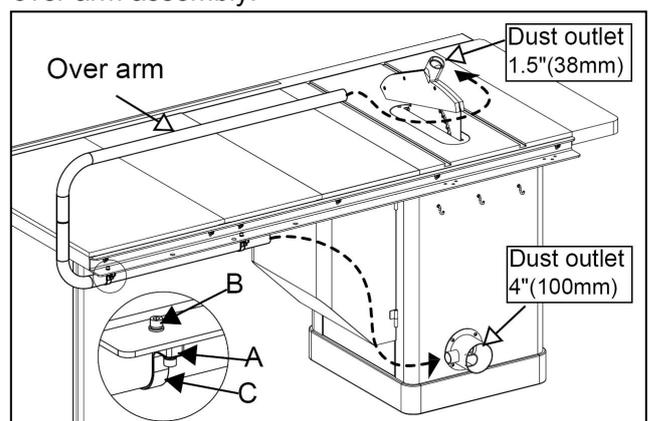

Fig.14
2. Installation of the over arm(Fig.14):
- Fit the bracket (A) to the rear rail with screw (B).
- Fit the over arm to the bracket (A) with clip (C).
c. Connect the pipe (1.5") provided by us to the dust outlet as **Fig.14** shows.